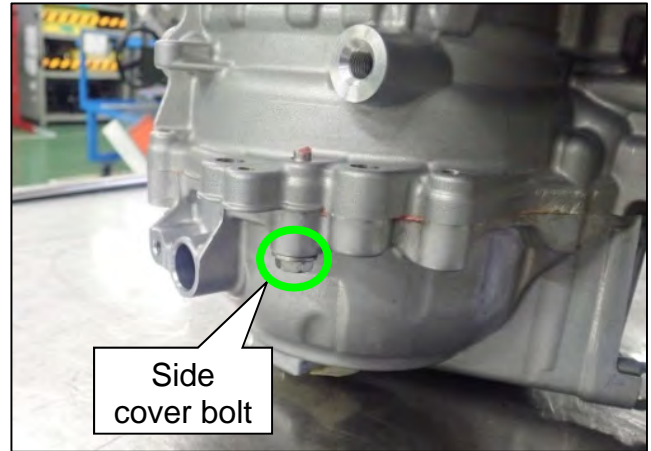
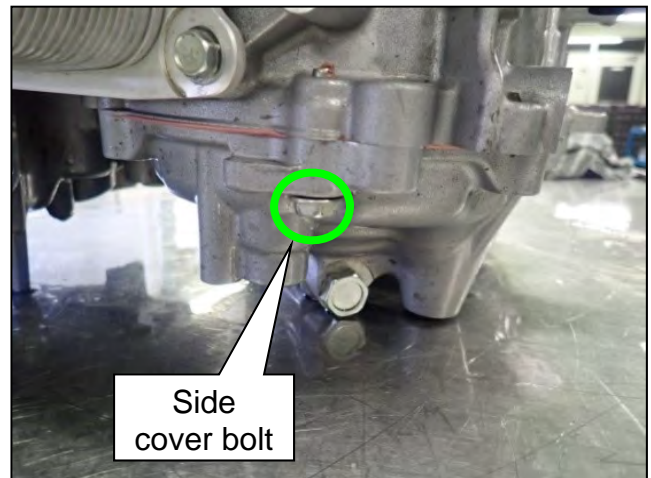

Figure 107
Figure 108
84. Remove the two (2) side cover bolts which were temporarily installed to hold the side cover to the CVT in step 81 on page 55 (Figure 107 and Figure 108).